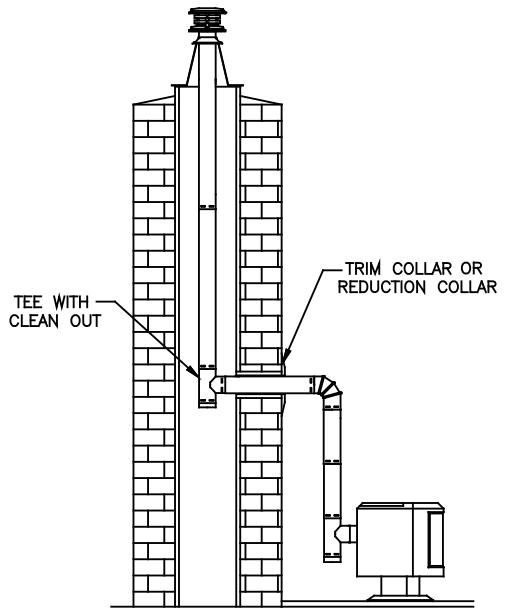

Figure 26
- B. A Tee Section is installed at the bottom end of the vertical pipe **(Figure 26)**.